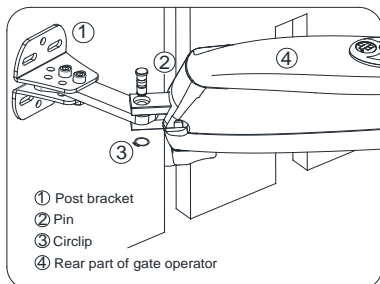

Fig.10
- Mount the rear part of the gate operator on the post bracket using the pin supplied, secure the pin using the circlip. Fig.10